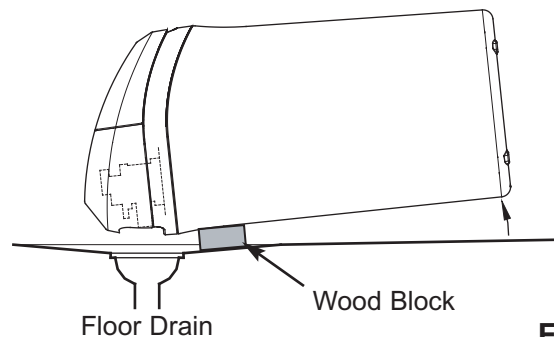

FIG. 32
6. Lay a piece of 5 cm thick board near the floor drain (See Figure 32).